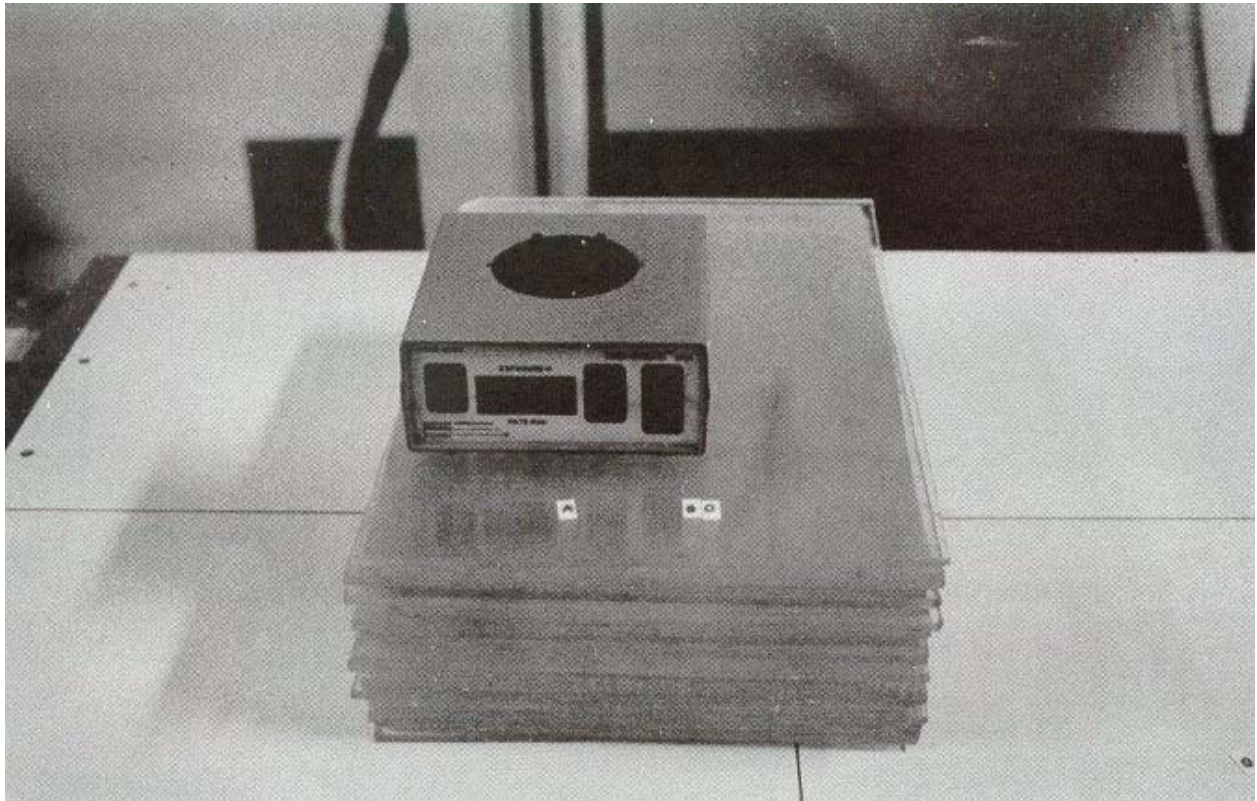

Figure 4-26. Geometry the same as in the reproducibility test.
- a. Maintain the same geometry and set up as in the reproducibility test (see figure 4-26).